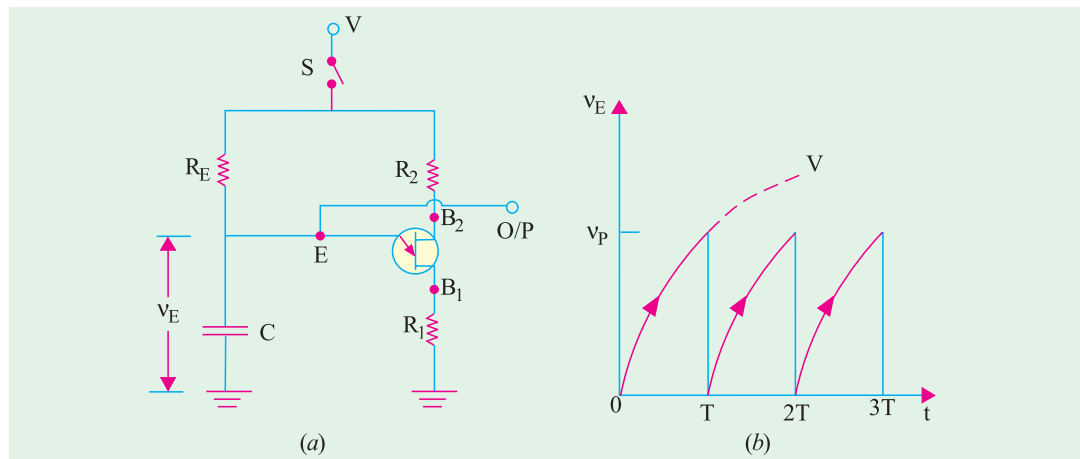

Fig. 65.25
The circuit is shown in Fig. 65.25. It consists of a power source, a unijunction transistor and an R-C network.
The emitter voltage waveform is shown in Fig. 65.25 (b). As seen,  $V_E$  rises exponentially towards the target voltage  $V$  but drops to a very low value after it reaches the value  $V_p$  due to sudden conduction through  $E/B_1$  junction. Since  $R_E$  is large (10 K or so) charging rate is comparatively slow but discharge is much quicker since  $R_1$  is very small (50  $\Omega$  or less). **This slow charge and fast discharge produces a sawtooth wave.**
**Example 65.15.** For the UJT oscillator circuit shown in Fig. 65.25,  $R_E = 10\text{ K}$ ,  $\eta = 0.75$ . If the required oscillator frequency is  $1\text{ kHz}$ , find the value of  $C$ .